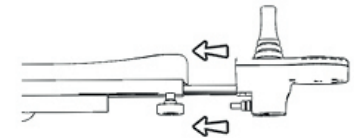

FIGURE 18
2. Install the joystick controller on the armrest.(Figure 18)